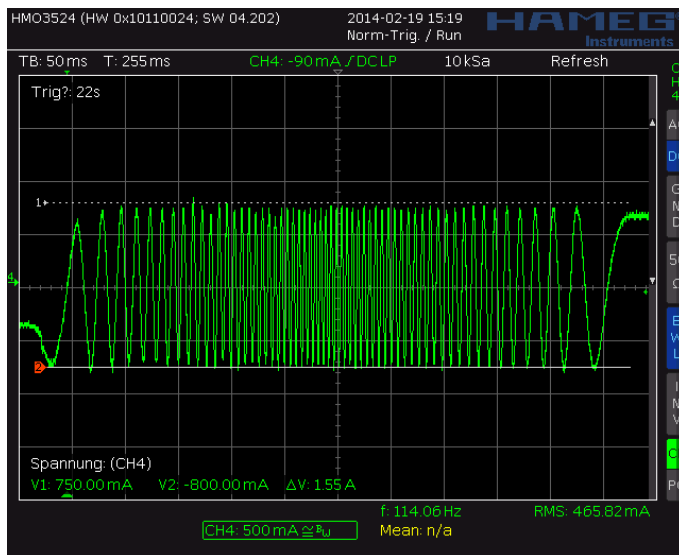
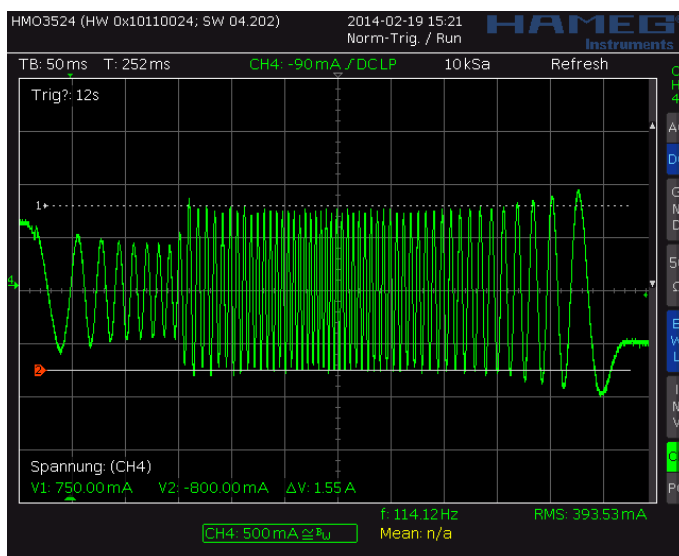
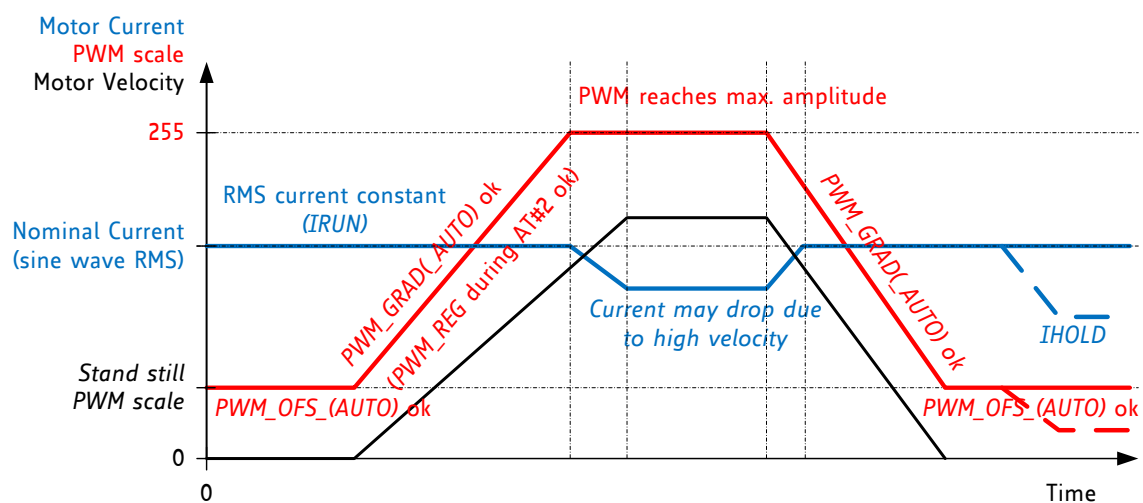

Figure 7.3 Scope shot: good setting for PWM_REG
Figure 7.4 Scope shot: too small setting for PWM_REG during AT#2
Figure 7.5 Successfully determined PWM_GRAD(AUTO) and PWM_OFS(AUTO)
In StealthChop voltage PWM mode, the autoscaling function (*pwm_autoscale* = 1, *pwm_auto_grad* = 1) regulates the motor current to the desired current setting. Automatic scaling is used as part of the automatic tuning process (AT), and for subsequent tracking of changes within the motor parameters. The driver measures the motor current during the chopper on time and uses a proportional regulator to regulate *PWM_SCALE_AUTO* in order match the motor current to the target current. *PWM_REG* is the proportionality coefficient for this regulator. Basically, the proportionality coefficient should be as small as possible in order to get a stable and soft regulation behavior, but it must be large enough to allow the driver to quickly react to changes caused by variation of the motor target current (e.g. change of *VREF*). During initial tuning step AT#2, *PWM_REG* also compensates for the change of motor velocity. Therefore, a high acceleration during AT#2 will require a higher setting of *PWM_REG*. With careful selection of homing velocity and acceleration, a minimum setting of the regulation gradient often is sufficient (*PWM_REG*=1). *PWM_REG* setting should be optimized for the fastest required acceleration and deceleration ramp (compare Figure 7.3 and Figure 7.4). The quality of the setting *PWM_REG* in phase AT#2 and the finished automatic tuning procedure (or non-automatic settings for *PWM_OFS* and *PWM_GRAD*) can be examined when monitoring motor current during an acceleration phase Figure 7.5.